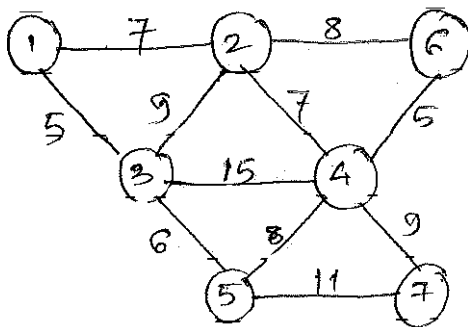

Figure 1
- b) What is spanning tree ? Find minimum spanning tree for following graph using Prim's algorithm. Show step by step result start vertex is 1. (See figure 1). 8